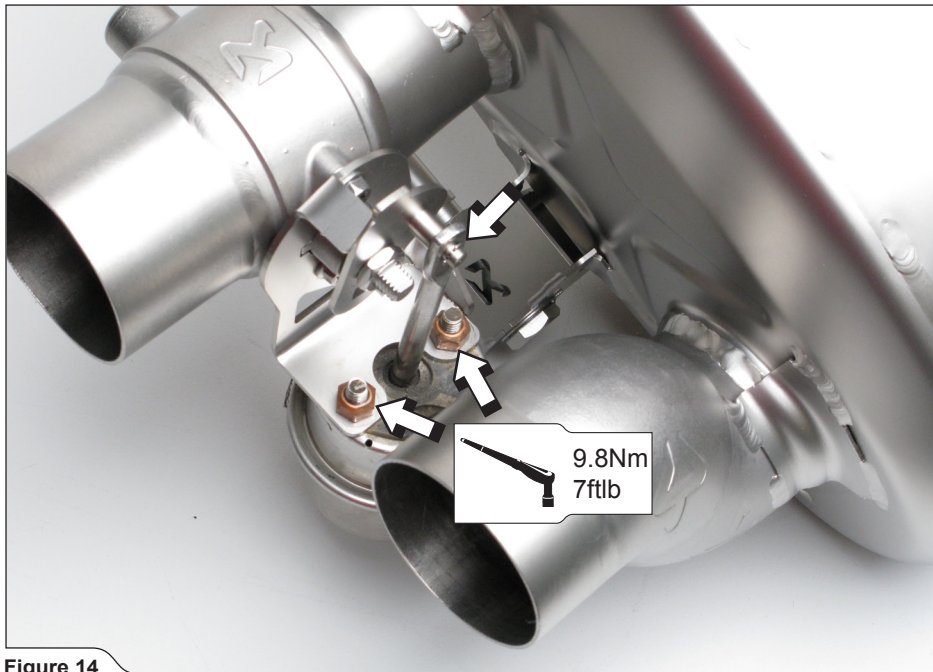
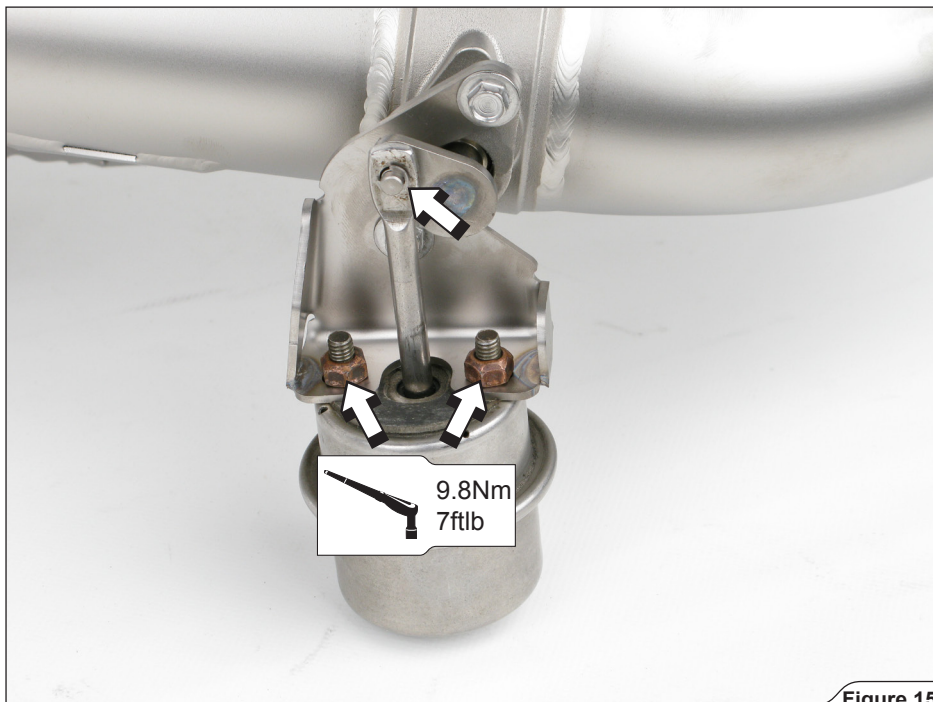

Figure 14
Figure 15
2. **For vehicle models equipped with original exhaust system flaps only:** assemble the original vacuum actuators onto Akrapovič exhaust valves, using original gaskets (between actuators and brackets), nuts and additional Akrapovič snap rings (**Evolution EC type approved: Figure 14; Evolution: Figure 15**).